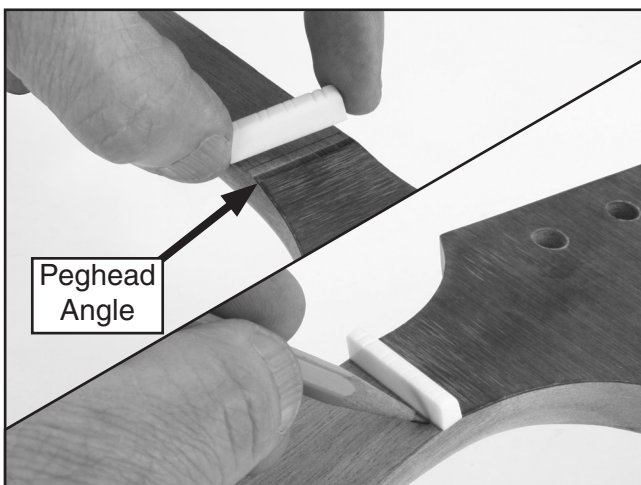

Figure 9. Marking the nut position.
2. Align the nut with the angle at the base of the peghead and draw a line along the bottom edge of the nut (**Figure 9**). Note—*It is important to use a very sharp pencil. Try using sandpaper to give the pencil a knife edge.*